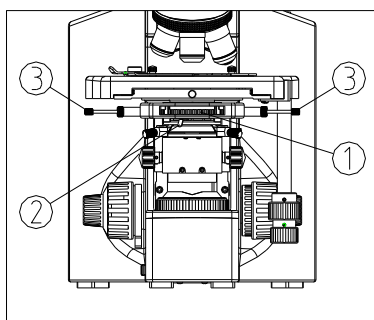

Fig. 27
ring①. In phase contrast observation, ring diaphragm magnification of phase contrast ring① should match with the phase contrast objective, and center the ring diaphragm. In bright field observation, rotate the phase contrast ring① to “BF” position. When it sounds “ka-da” in rotating, it indicates that one diaphragm or hole is rotated into the center of optical path (see Fig. 27).
- (1) Rotate the 10X phase contrast objective into the light path, then rotate the ring diaphragm of phase contrast ring① to the 10X position.
- (2) Turn the aperture diaphragm lever② to the leftmost.(Always keep the aperture diaphragm to the maximum in phase contrast observation.)
- (3) Put specimen on the slide clip and focus.
- (4) Take out one observation eyepiece and replace it with a CT (centering telescope) into the tube without diopter adjustment.
- (5) Loosen the lock screw of the centering telescope, move the telescope tube up and down, to adjust the image of the halo④ and phase ring⑤ to be clear, and then lock the screw. (See Fig. 27 & 28)
- (6) Adjust the phase contrast ring adjusting lever③ when observing from the centering telescope, and center the halo④ with the phase ring⑤.
- (7) Take off the CT, and insert the eyepiece, to observe the phase contrast effect.
- (8) Adjust phase contrast objectives of other magnification and ring diaphragm according to above steps.